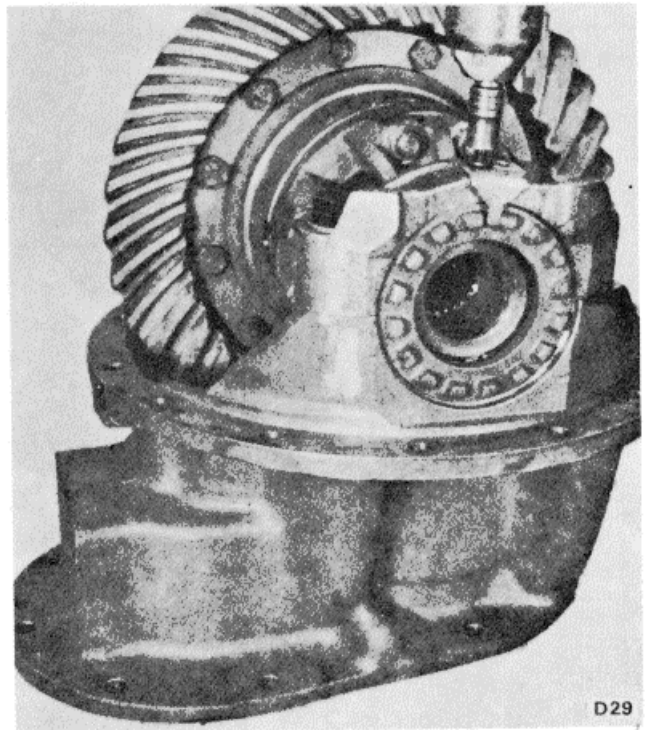

Figure 9C-39. Removing Bearing Lock
6. Straighten tangs on thrust screw nut lock. Remove lock-nut and thrust screw, Figure 9C-38.